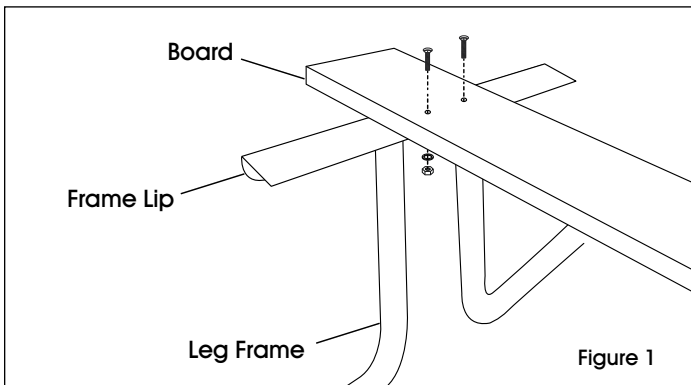

Figure 1
2. Stand up the leg frames and loosely attach one board in the center of the tabletop using the 3/8" bolts, washers and nuts. (See Figure 1)